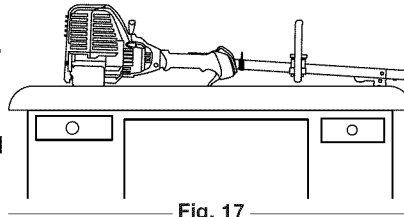

Fig. 17
2. Place the engine on a flat, level surface with the cutting head shield hanging off a work bench or table to get a proper oil level reading (Fig. 17).